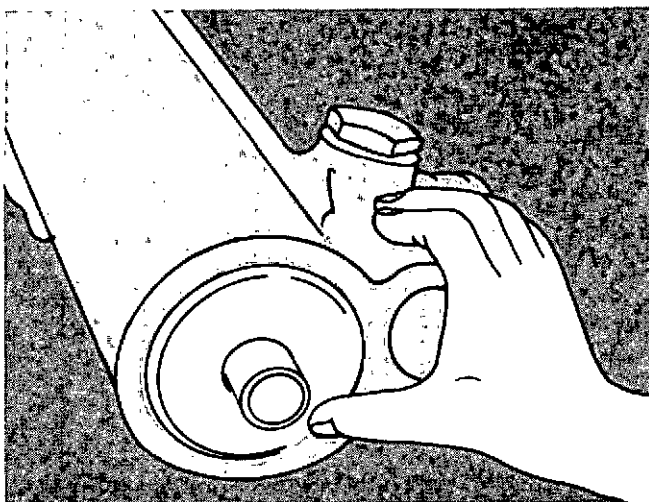

Fig. 7-35. Install The Element Into The Housing.
5. Install the element into the housing from the filter end of the housing. Make sure the drain-cock on the element is to the filter end of the housing, Fig. 7-35. Use your hand to push the element into the housing.